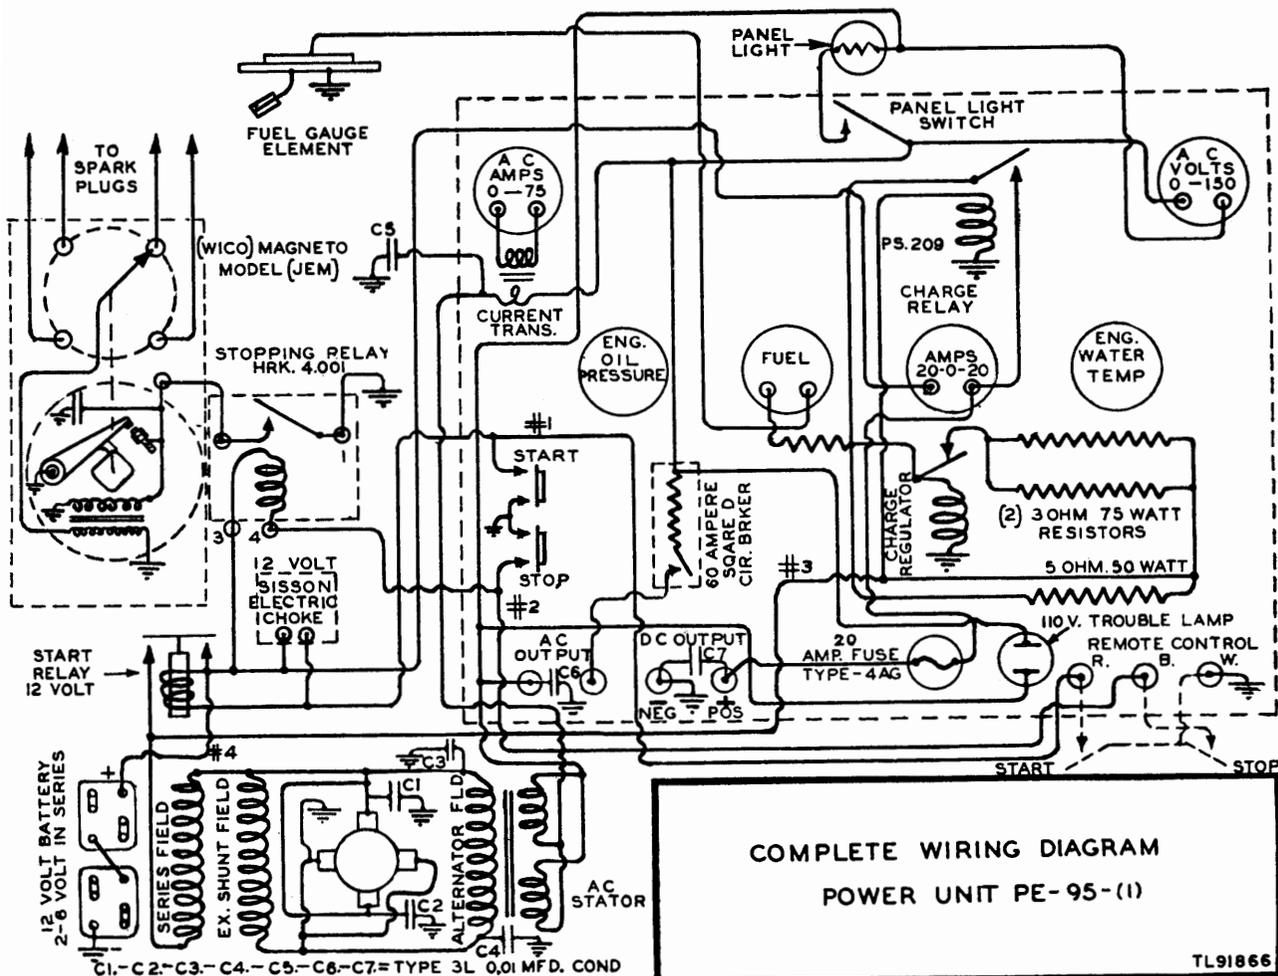

Figure 29. Wiring diagram, Power Unit PE-95-(1).
a. POWER UNIT PE-95-(1). See wiring diagram, figure 29. When the START button in the lower right-hand corner of the control